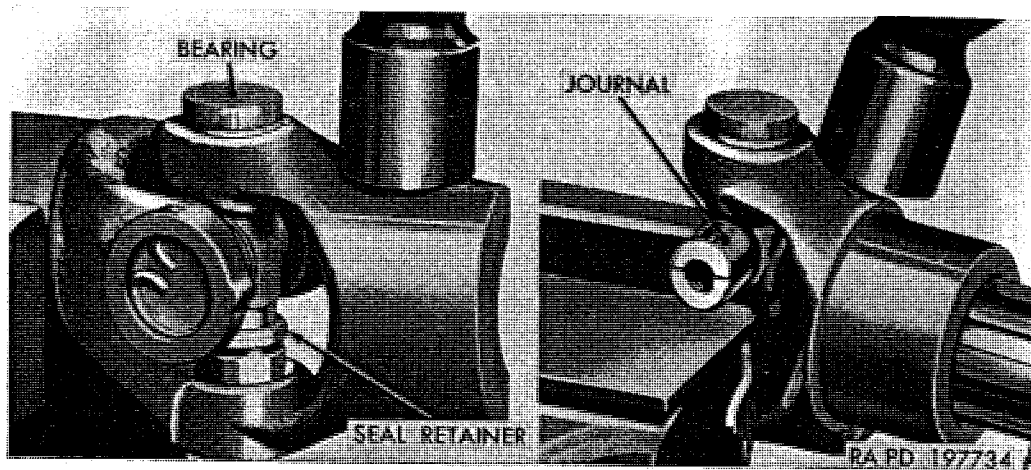

Figure 342. Disassembly of winch drive line universal joint.
- (1) Grip one yoke of universal joint in a vise and remove four snap rings (A) securing bushing-type bearings (B) in yokes.
- (2) Remove 90° lubrication fitting (F) from journal (E).
- (3) Support one yoke in vise jaws; then strike other yoke with hammer as shown in left view of figure 342 to remove one bushing-type bearing. Turn yoke over and strike on opposite side to remove opposite bearing. Remove yoke from which bearings were removed from journal.
- (4) Install soft metal jaw protectors in vise; then support ends of journal on vise jaws as shown in right view of figure 342. Strike yoke with hammer to remove one bushing-type bearing; then turn yoke over and strike opposite side to remove opposite bearing.
- (5) Remove journal (E) from yoke; then remove and discard cork seals (C) and seal retainers (D) from journal.